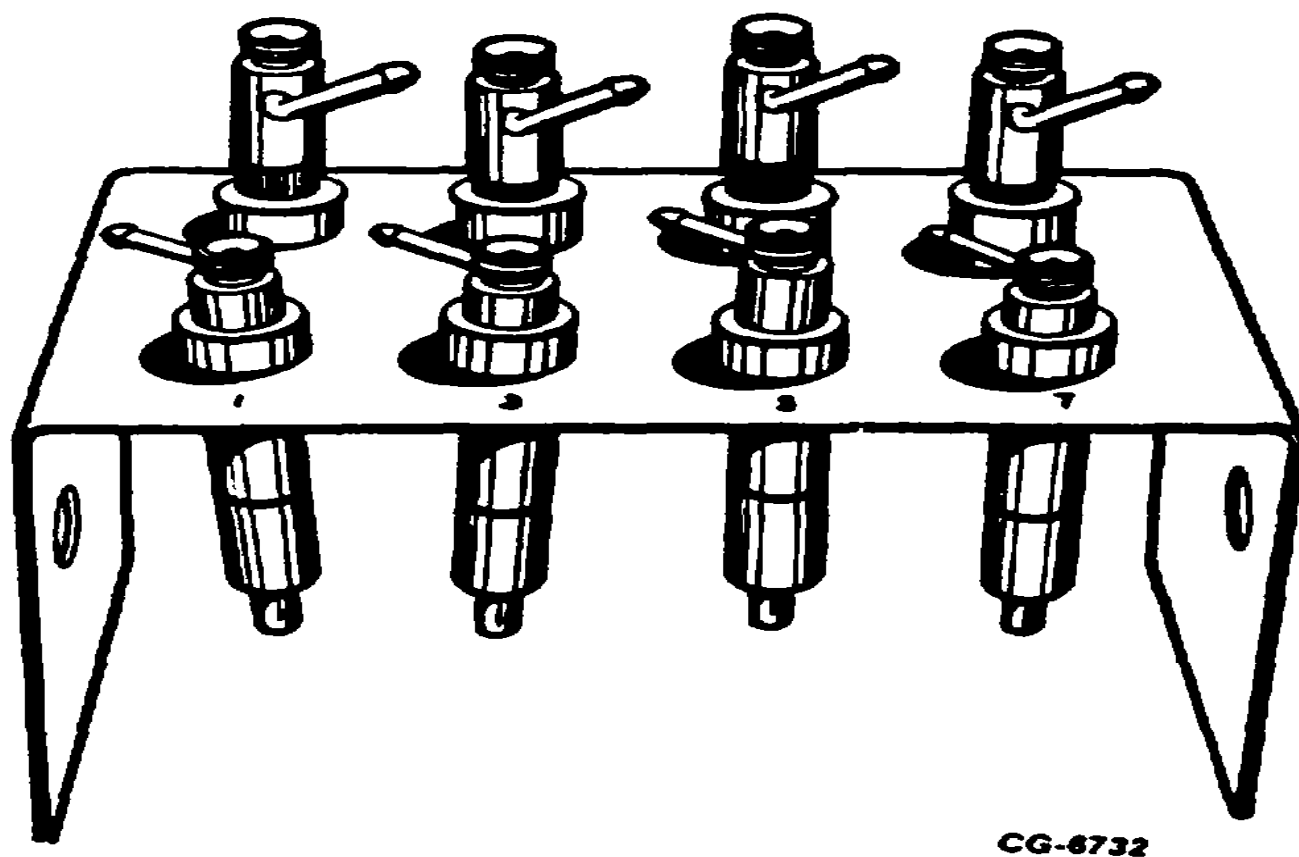

Fig. 4 Nozzle Holding Fixture SE-2102
4. Place nozzle assemblies in a holding fixture SE-2102 as they are removed from the heads, Fig. 4. The fixture is stamped with numbers corresponding to the cylinder numbering of the engine. Use of this fixture permits replacing nozzles in their respective ports in the cylinder heads.